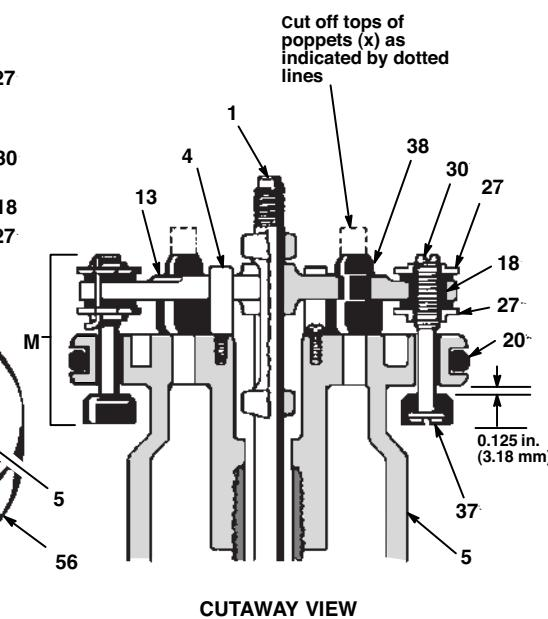

FIG. 5
- Use a screw driver to push down on the trip rod yoke (14) and snap the toggle assemblies (K) down. See FIG. 5. Remove the lock wires (28) from the adjusting nuts (27) of the transfer valves (M). Screw the top adjusting nuts (27) off. Screw the valve stems (30) out of the grommets (18) and lower adjusting nuts (27). Take the valve poppets (37) off the stems and squeeze them firmly to check for cracks.
- Grip the toggle rockers (16) with a pliers. Compress the springs (17) and swing the toggle assembly (K) up and away from the piston lugs (L), and remove the parts. Check that the valve actuator (13) is sup-
ported by the spring clips (4), but slides easily into them. (FIG. 5)
- Remove the trip rod yoke (14), valve actuator (13) and trip rod (1). Check the exhaust valve poppets (38) for cracks.
- Be sure the o-rings are in place. Slide the piston rod down through the throat bearing and lower the piston (5) into the air motor base (56).
- Pull the exhaust valve poppets (38) into the valve actuators (13) and clip off the top part shown with dotted lines. (FIG. 5)
- Install the transfer valve poppets (37) onto the valve stems (30), bottom adjusting nuts (27), grommets (18), and top adjusting nuts (27) on the piston (5). Assemble the trip rod (1), valve actuator (13), trip rod yoke (14), and toggle assemblies (K) on the piston. (FIG. 5)
7. Before installing the lock wires (28) in the adjusting nuts (27), use the special gauge, 171818, to adjust the transfer valve (M) so there is 0.125 inches (3.68 mm) clearance between the poppets (37) and the piston (5) when the toggle assemblies are in the *down* position.
8. Snap the toggle assemblies (K) to the *up* position. Reinstall the cylinder (32) and cap nut (31). Reassemble the air motor to the displacement pump.